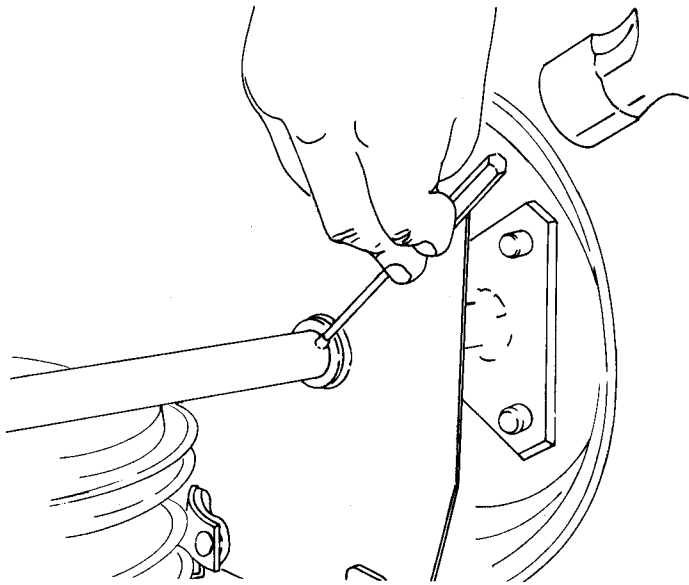

FIGURE 3.29 — AXLE DRIVE PIN REMOVAL
**STEP 1:** Drive the roll pin out of the axle shaft on the right side as shown in Figure 3.29.